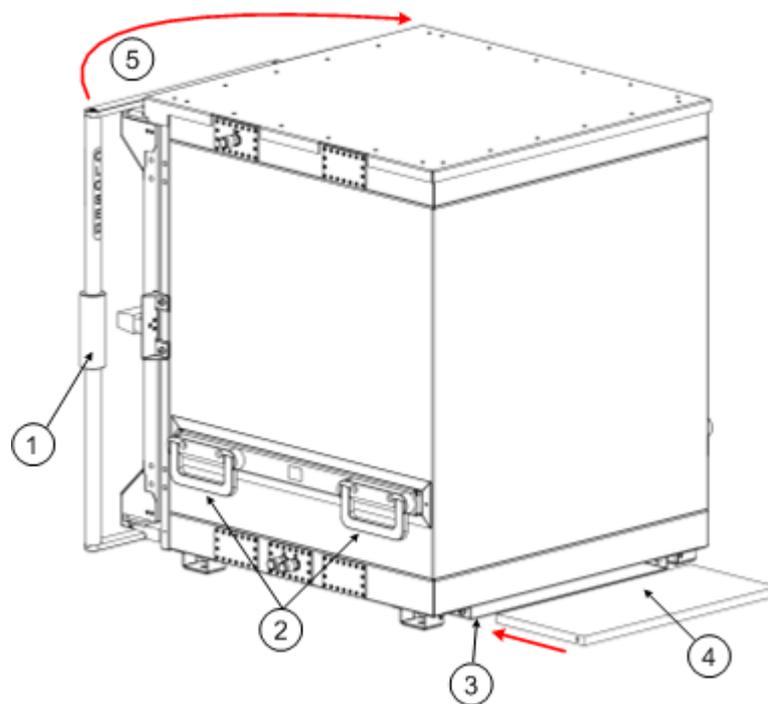

Figure 3-2: Position of balancing weight
- Ensure that the balancing weight is in the slot at the back of the chamber and affixed by the two screws on either side. For more information see Figure 3-2.
The RF Diagnostic Chamber is available with either left-hand front door mounting (selection R&S DST-S100A, order no. 1515.1396.02) or right-hand mounting (selection R&S DST-S100B, order no. 1515.1396.03). The two selections are symmetric to each other; Figure 3-2 shows a door with a left-hand mounting (hinges on the left side).